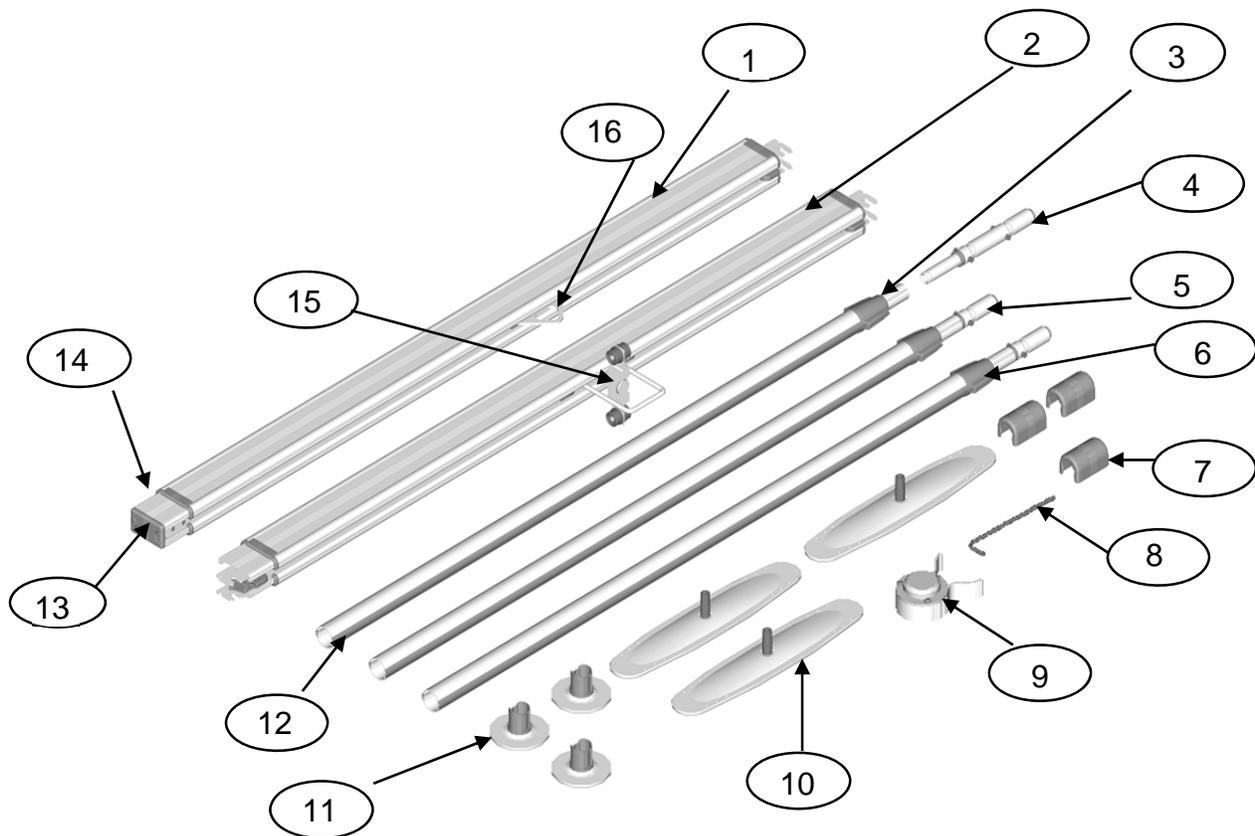
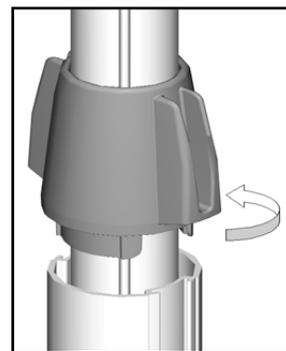

Figure 9
Figure 21
**Note:** Pivot and Standard posts are different - see Figure 9 for more details.
2. Remove the round blue cap (see Figure 9 – item #7) from the top of each post by pulling them away from the post (see Figure 11).
4. Place one round foot plate (see Figure 9, item #11) on the floor where you want to place the first post of the Easytrack System.
5. Take the pivot post (see Figure 9, item #3) out of the box and the post top for pivot post (see Figure 9, item #4). Insert the post top into the post until it snaps into place (see Figure 13).
6. Take top plate (see Figure 9, item #10) and clip-on level (see Figure 9, item #9) out of the box. Place the clip-on level onto the post at approximately waist height (see Figure 14).
10. Lift the blue locking handle out of the lower portion of the post (see Figure 9, item #6). Using the blue piece as a handle, twist the post as follows (see Figure 21):
15. Get the Extendable Rail with the swivel trolley (see Figure 9 – item #2).
19. Take the Pivoting Extendable Rail with standard trolley out of the box (see Figure 9 – item #1).
20. Take the flat blue cap (see Figure 9 – item #13) off of the end of the rail (see Figure 31).
- b) Using the Allen key (see Figure 9 – item #8) provided, loosen the stopper in the upper portion of the rail and slide it out of the rail (see Figure 33).